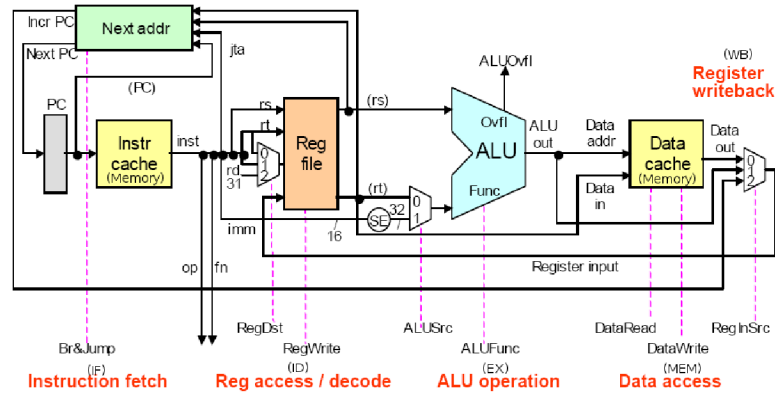

Figure 1: Single-cycle datapath. (Adapted from *Computer Architecture* by Behrooz Parhami.)
5. [5 marks] The single-cycle datapath and next address block that we discussed in class are shown in Figures 1 and 2. Now, consider the instruction: `lui rt,imm`.